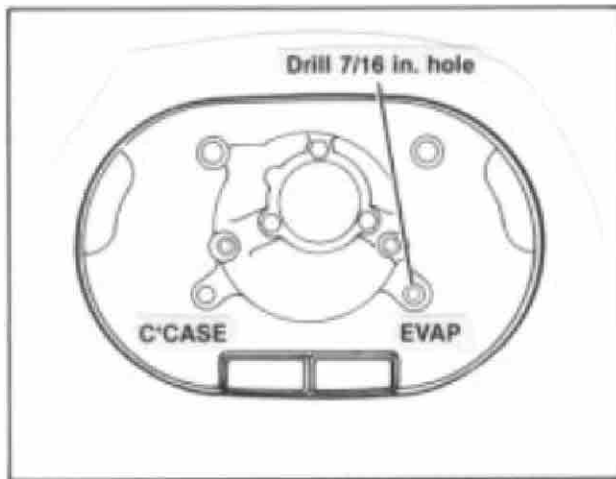

Figure 3. Air Cleaner Backplate Modification
1. See Figure 3. There is an evaporative vent tube nipple on the carburetor side of the air cleaner backplate. A countersunk depression is cast in the thin layer of material at the closed end of the vent tube.